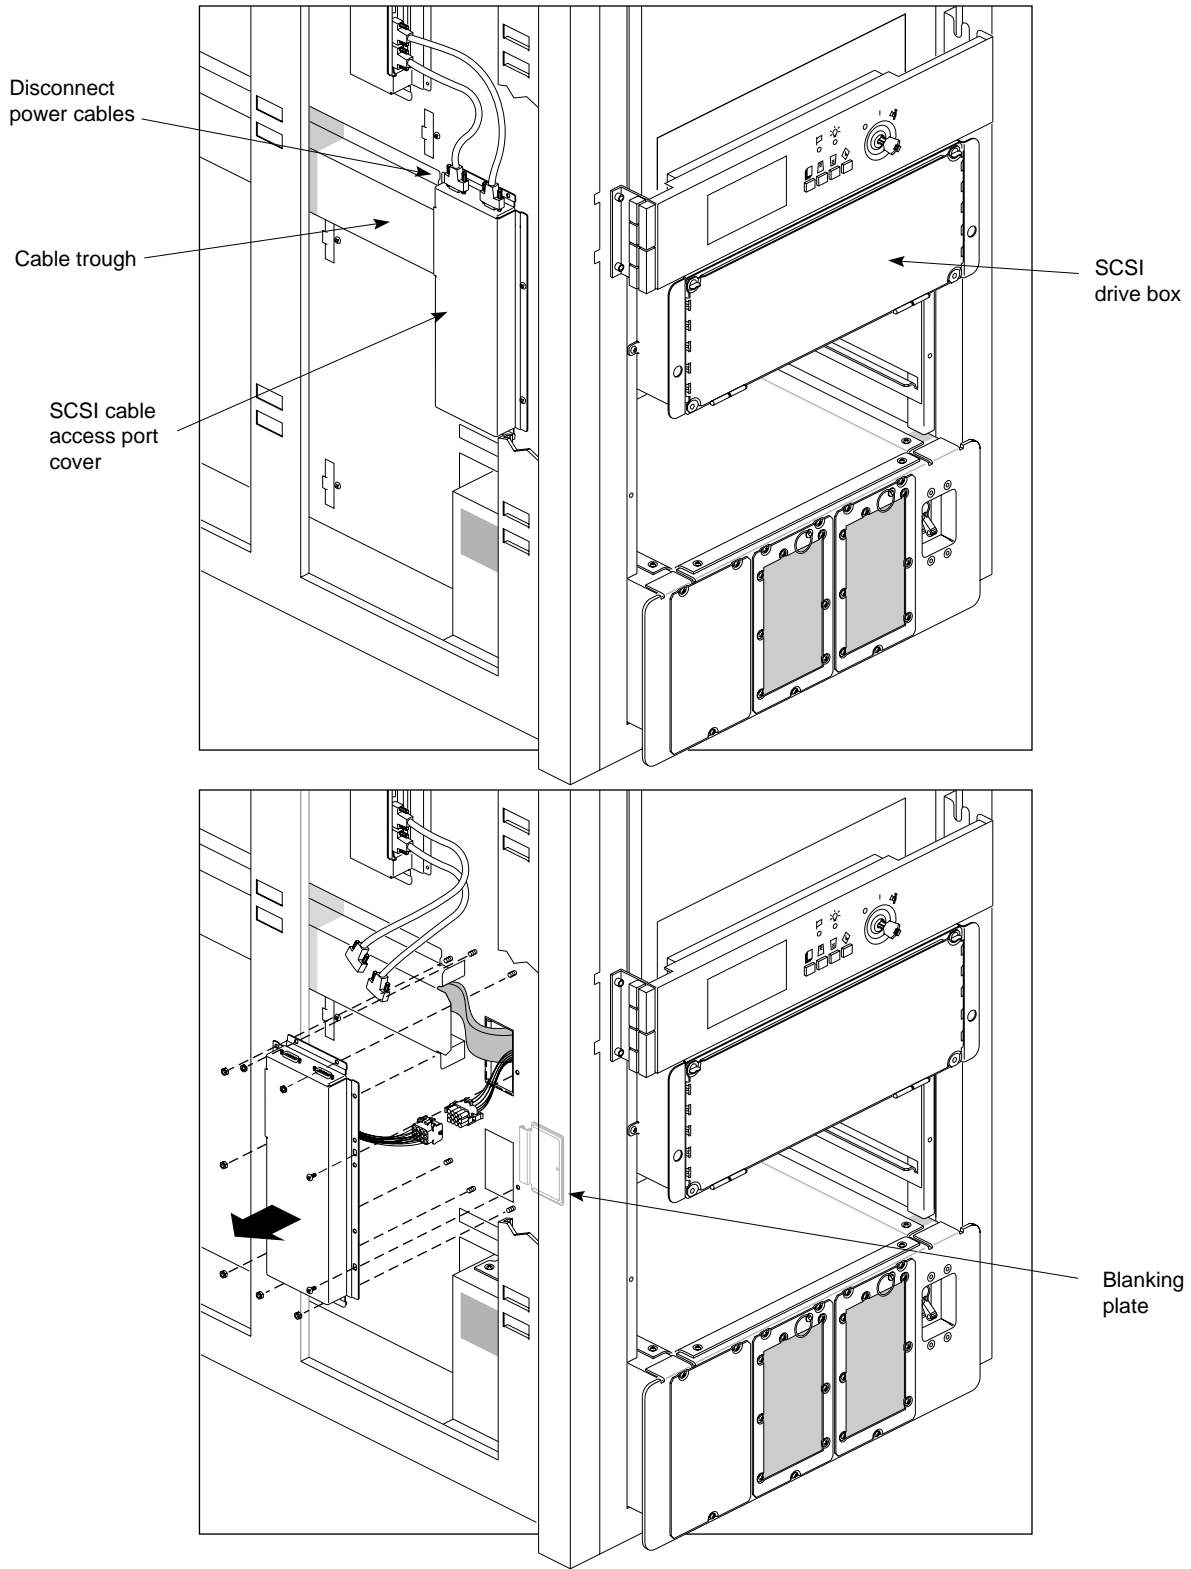

Figure 3-40 Removing the SCSI Cable Access Port Cover and Blanking Plate
8. Locate the 2 SCSI cables and the power cable for the optional SCSIBox. These cables run down the left side of the system cabinet and exit from the cable routing box immediately to the rear of the SCSI cable access ports (see Figure 3-40).